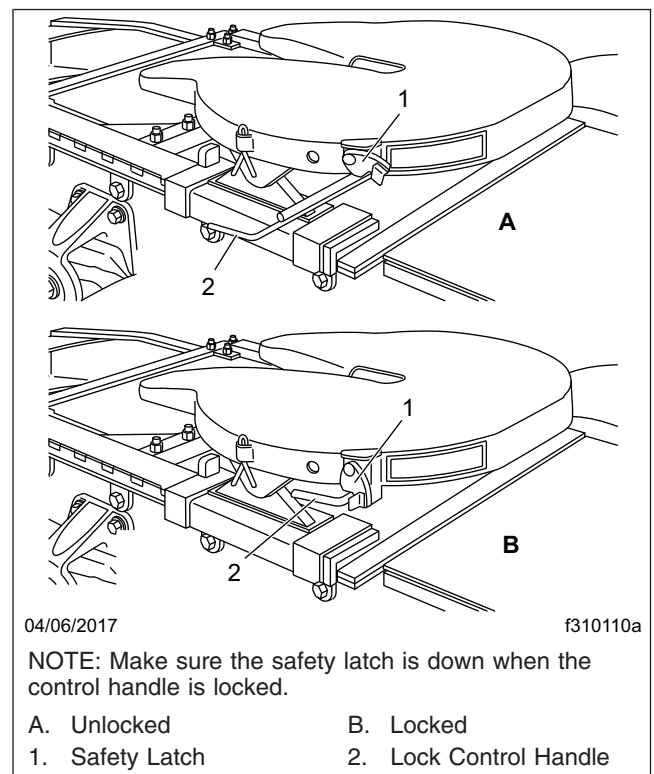

Fig. 10.17, Fontaine Fifth Wheel, Locking and Unlocking
6. Make a visual and physical check for positive kingpin lockup. When lockup has occurred, the fifth wheel control handle will have moved to the locked position. Make sure that the safety latch is down over the lock control handle. See **Fig. 10.17**. This will hold the control handle in the locked position.
6. Release the kingpin locking mechanism by lifting the safety latch and pulling the lock control handle to the unlocked position. See Fig. 10.17.